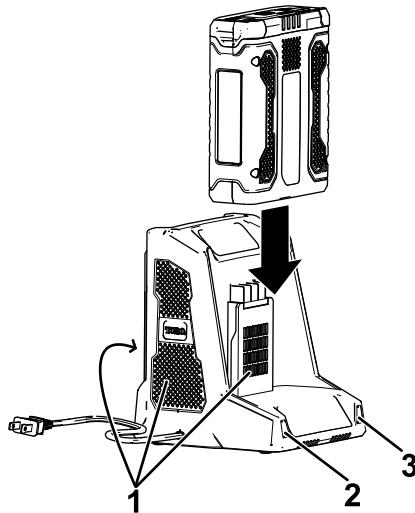

Figure 24
4. Slide the battery pack into the charger until it is fully seated (Figure 24).